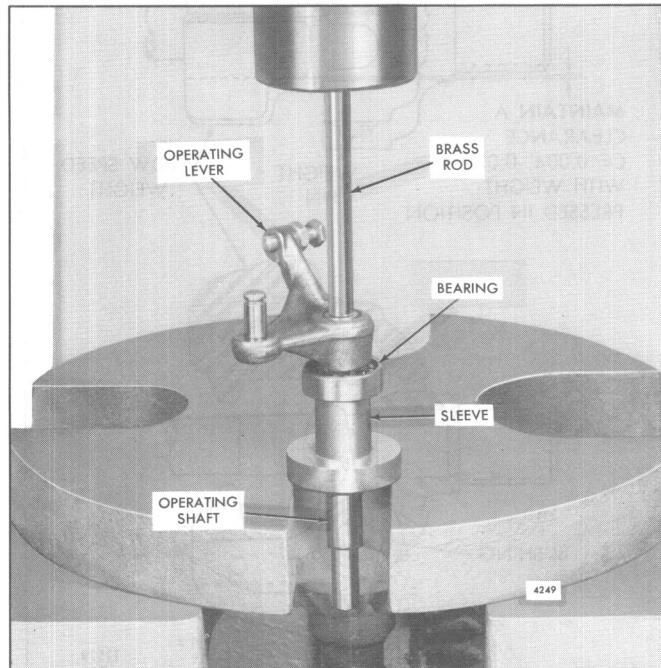

Fig. 17 – Removing Operating Lever and Upper Bearing From Operating Shaft
- k. Support the operating shaft, lever, bearing and sleeve on a large washer or plate, with a 5/8" hole, on the bed of an arbor press (Fig. 17). Place a small brass rod on the end of the shaft and press the operating shaft out of the operating lever and bearing. Catch the shaft by hand when pressed from the lever and bearing to prevent it from falling and being damaged.